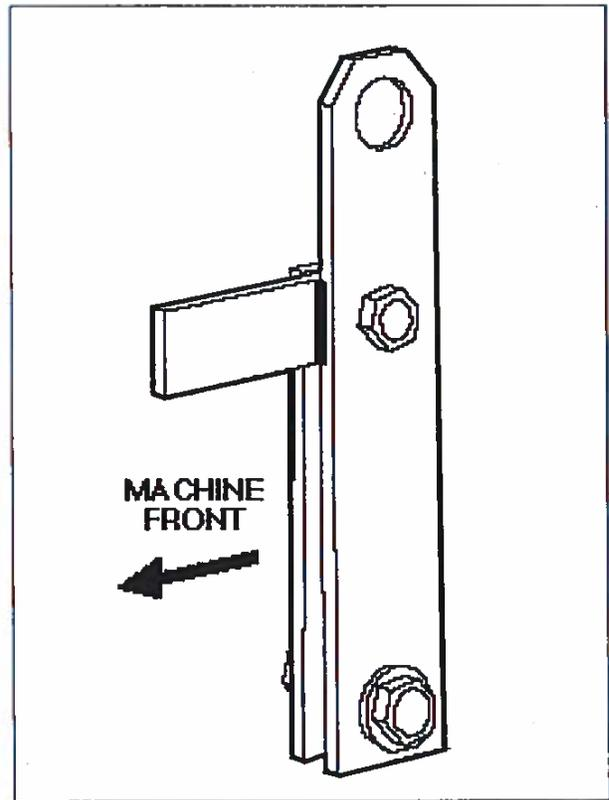

Fig. 2
1. Remove lower bolt from the lifting plate assembly (Fig. 2) and locate the complete unit over the angled web adjacent to the gap piece. (It may be necessary to slacken the upper bolt).
1. Remove lower bolt from the lifting plate assembly (Fig. 2) and locate the complete unit over the second angled web away from the gap piece. (It may be necessary to slacken the upper bolt).